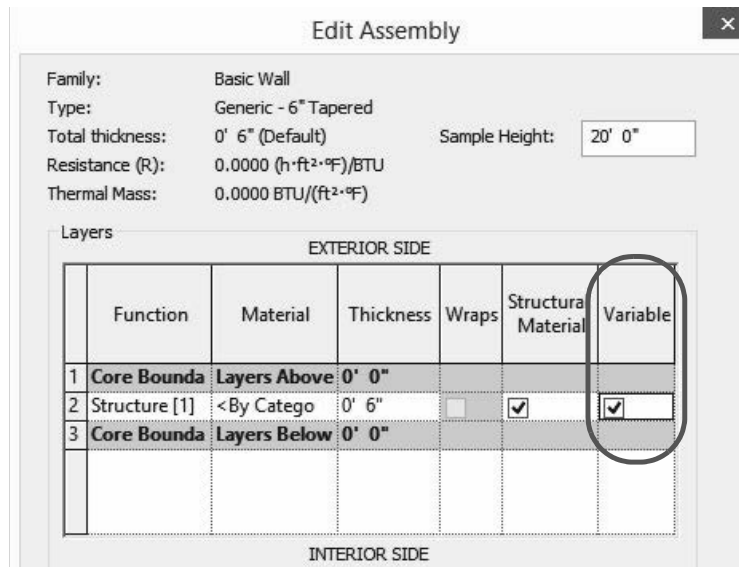

Figure 7–11
- e. In the *Type Properties* dialog box, you will now have the ability to set the *Cross Section Properties*, as shown in Figure 7–12.